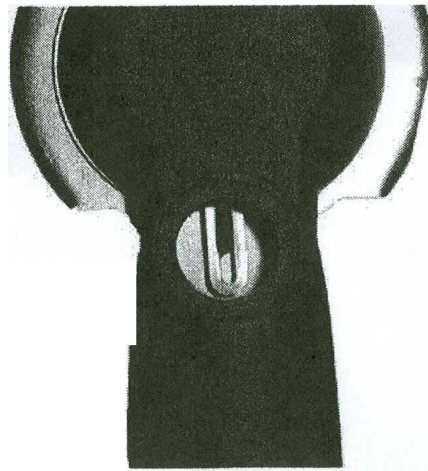

Fig. 1
1. Each Proto dial type torque wrench has a removable cover on the back side of the wrench, behind the dial scale. On wrenches up to 50 ft.lb. (600 in.lb.) the cover is a round plug which can be removed by using a flat tip screw driver (see fig. 1). On wrenches up to 2000 ft.lb. the cover is held into place with a phillips screw.